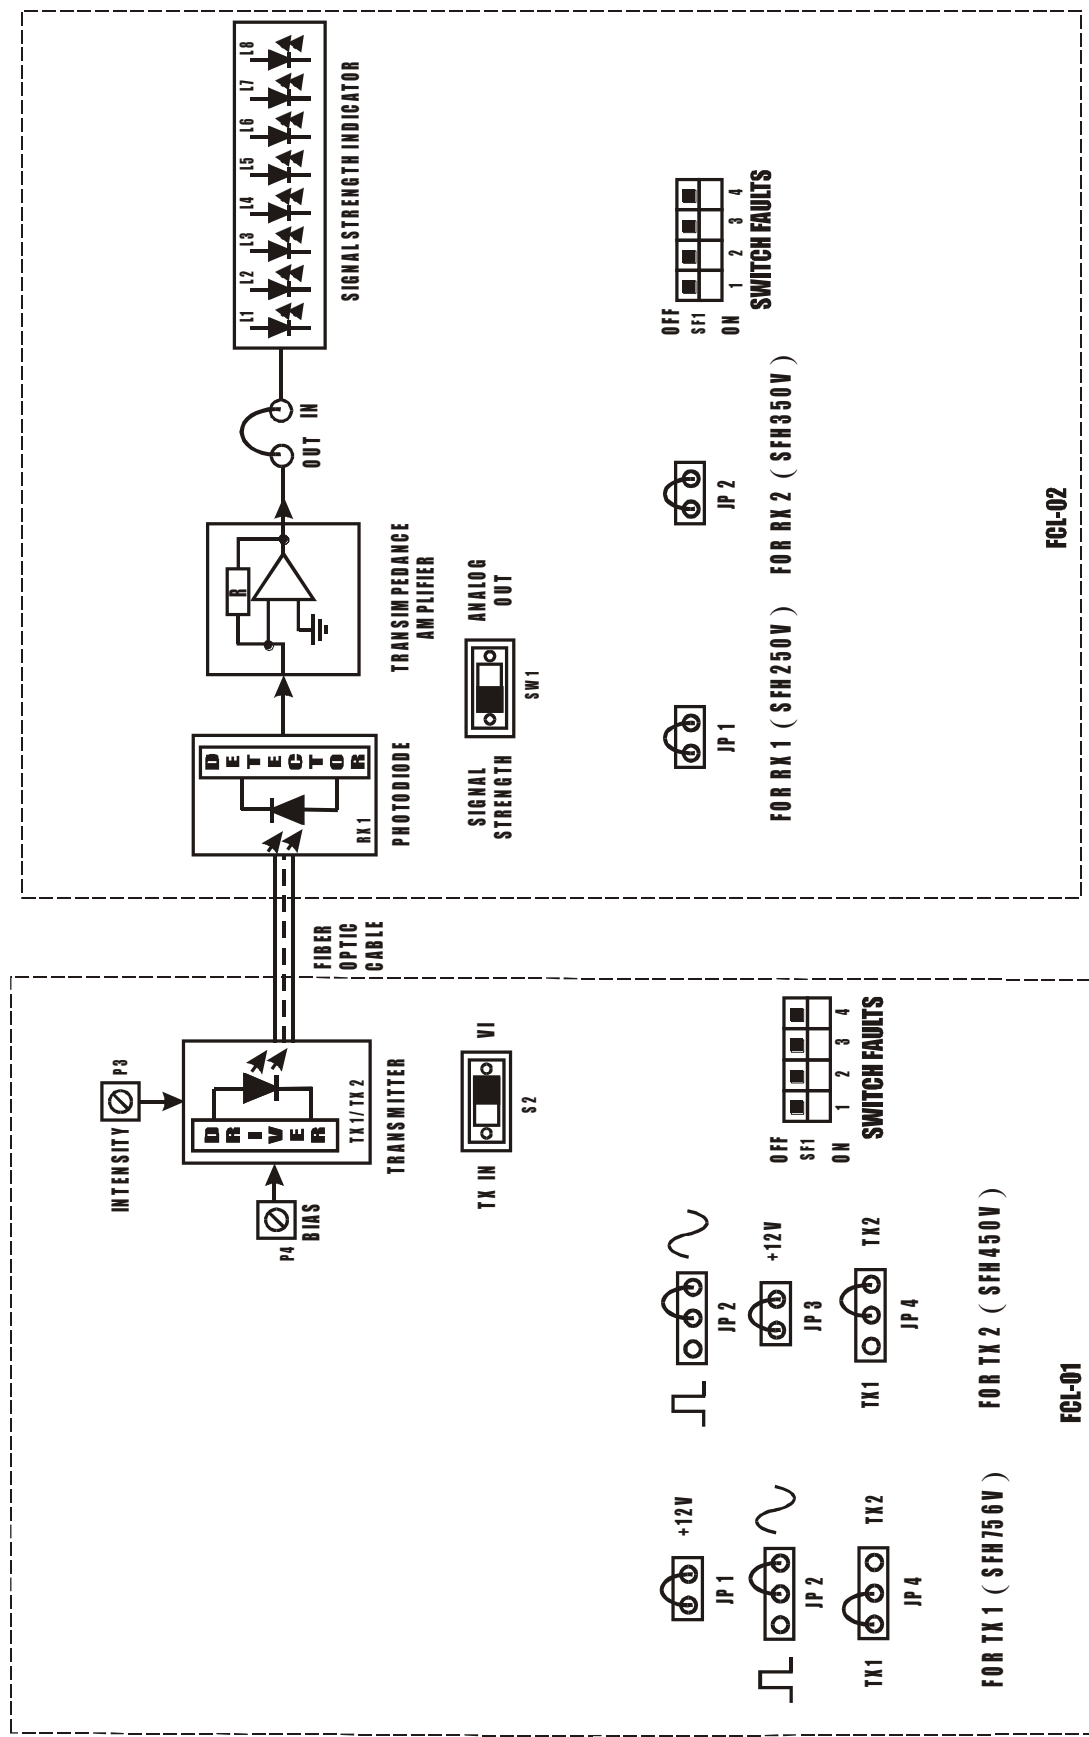

FIG. 7.1 BLOCK DIAGRAM FOR MEASUREMENT OF FIBER OPTIC LOSSES
- Make connections as shown in fig.7.1. Connect the power supply cables with proper polarity to FCL-01 & FCL-02 Kits. While connecting this, ensure that the power supply is OFF.
- Keep the jumpers **JP1**, **JP2**, **JP3** & **JP4** on FCL-01 as shown in fig.7.1.
- Keep the jumpers **JP1** & **JP2** on FCL-02 as shown in fig.7.1.